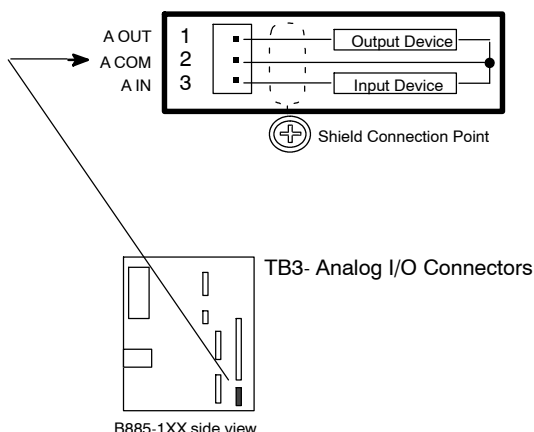

Figure 37 Analog I/O Test Points on the B885-1XX
- Analog input mode to select User Variable (1).
- Step 2** Connect the positive output of a 0 ... 10 Vdc variable power supply to the analog input pin TB3-3 and connect the common output to the input common pin TB3-2. Set the power supply output at +5 Vdc. Refer to Figure 37.
- Analog output mode to select User Variable (4).
- Step 7** Using a dc voltmeter, measure the analog output voltage from pin TB3-1 (A OUT) and to pin TB3-2 (A COM). The output voltage should be + 5 Vdc. Refer to Figure 37.